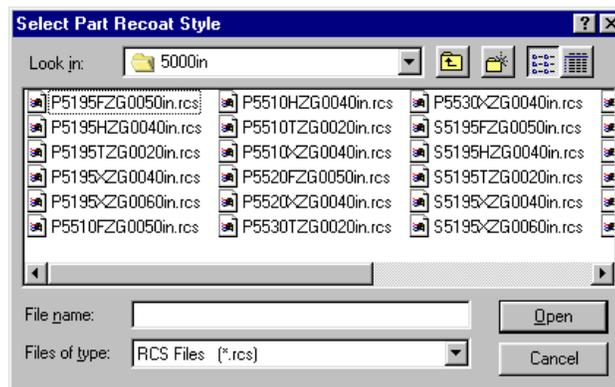

Figure 87. Select Part Recoat Style Window
1. Click the... **Browse...** button to open the "Select Part Recoat Style" window (Figure 87).